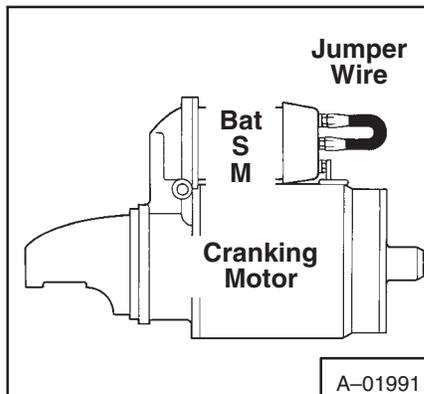

Fig. 6-27 Checking Starter
2. Connect a jumper wire between the S connection and the BAT connection (Fig. 6-27). If the starter turns but does not turn the engine, there is a defect in the starter drive. If the starter does not turn, continue to Step 3.